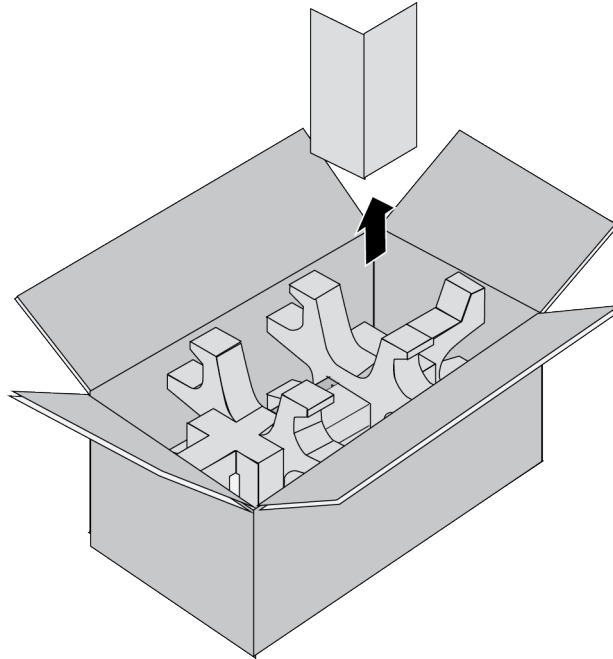

Figure 34. Removing the Partition from the PWR600 AC Power Supply Shipping Box
2. Remove the partition from the shipping box. Refer to Figure 34 on page 82.